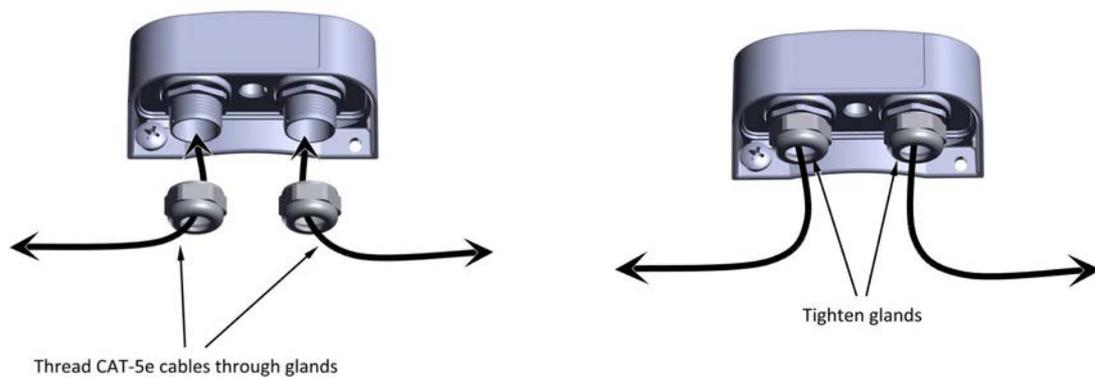

Figure 1-51: Connecting cables to the LPU (1) Figure 1-52: Connecting cables to the LPU (2)
6. Thread the CAT-5e/6 cables through the cable glands, and connect the cables to the LPU as shown in Figure 1-51.
5. Thread the CAT-5e/6 cables through the cable glands, and connect the cables to the LPU as shown in Figure 1-51.